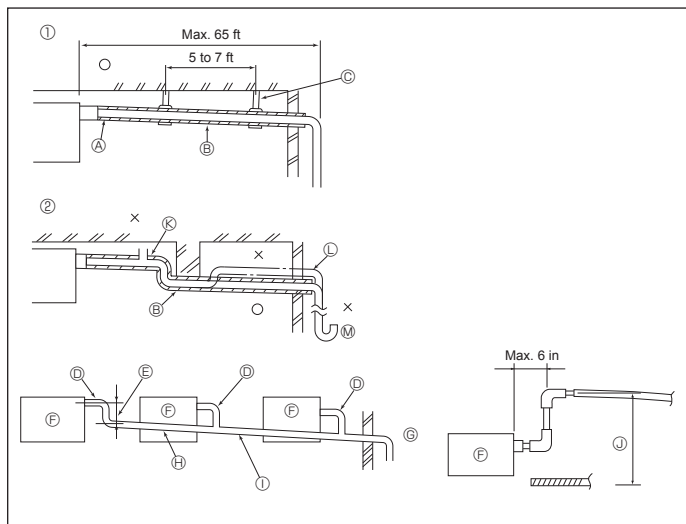

Fig. 6-1
6.1. Drainage piping work (Fig. 6-1)
- ① Correct piping
- ② Wrong piping
- ④ Insulation (9 mm (11/32 inch) or more)
- ⑤ Downward slope (1/100 or more)
- ③ Support metal